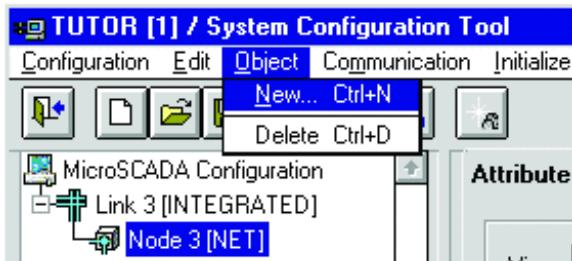

Figure 5: Adding a new line in the configuration tree
2. From the Object tree, select Node 3(NET) and from the menu bar, choose **Object/New**(or Ctrl+N on the keyboard). See Figure 5.